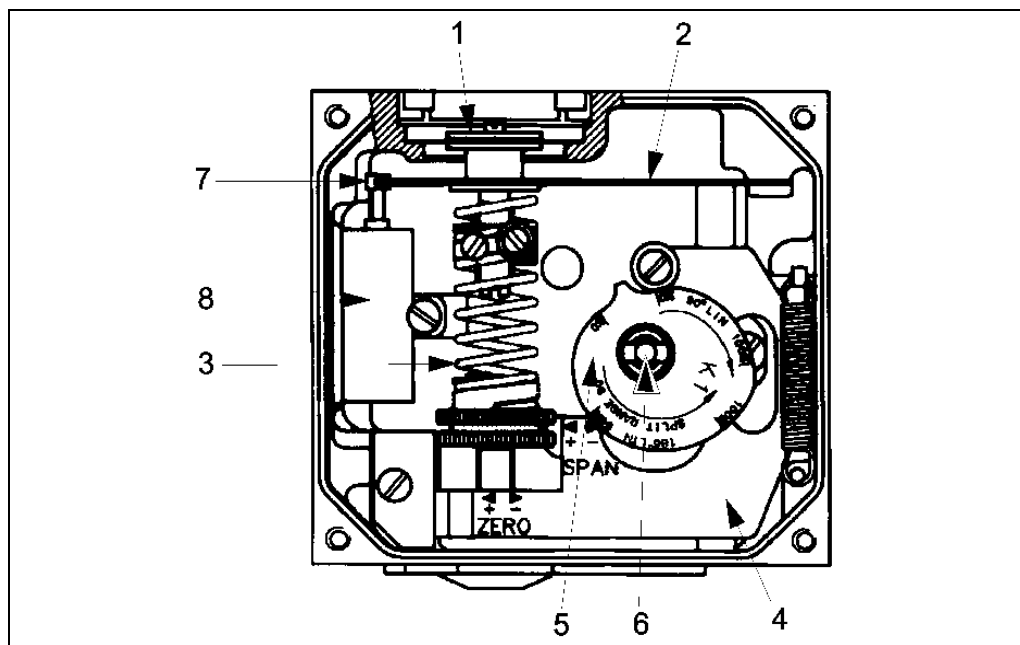

Figure 1 – Internal Parts
P36C and P41C positioners operate on a force balance principal. Force is applied from a signal pressure that is transmitted through a diaphragm (1) to the balance arm (2). The feedback spring (3) provides the opposing force. This force is proportional to the level of the lower arm (4). The lower arm level is determined by the position of the cam (5), which is secured to the spindle (6). The spindle is connected to the actuator shaft thus providing the feedback from the actuator and valve. See Figure 1.